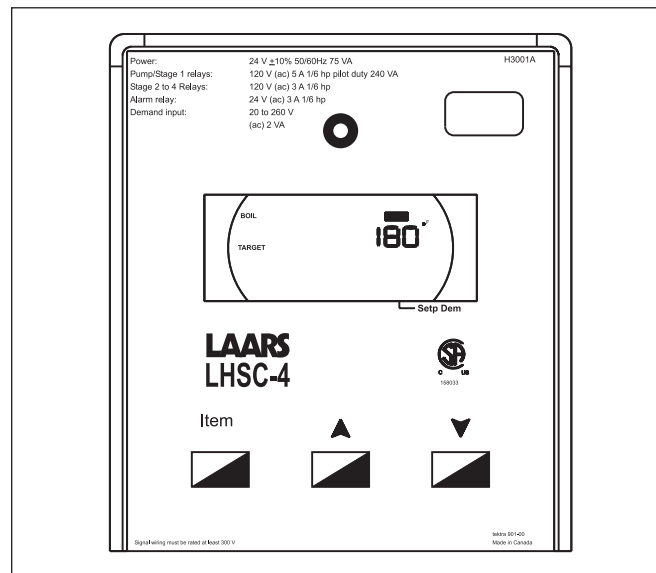

Figure 25. Temperature Control.
There are three black programming buttons on the Temperature Control (see **Figure 25**). Press and hold all three programming buttons until the word **ADJUST** appears in the upper right corner of the LCD display (it replaces the word **VIEW**).
The control also evaluates the sensor(s) installed in the system. If the control is not in warm weather shutdown (WWSD), and the sensor(s) are below the target temperature, the “Dem” segment is turned on in the display. The control energizes the pump (on pump mounted boilers) and energizes both “PMP” terminals. The pump symbol appears in the display (see Figures 25 and 26). The control then operates the stages to maintain the setpoint temperature.
Step 2: Press the three programming buttons to enter **ADJUST** mode (Figure 25). Press **ITEM** to select the programming item, and the arrow keys to adjust the setting. **TARGET TANK** is desired tank temperature. Recommended settings with a desired tank temperature of 125°F:
Step 3: Press the three programming buttons to enter **ADJUST** mode (Figure 25). Press **Item** to select the programming item, and the **ARROW** keys to adjust the setting. See Section 6.3 Programming the Temperature Control if more programming instructions are needed.